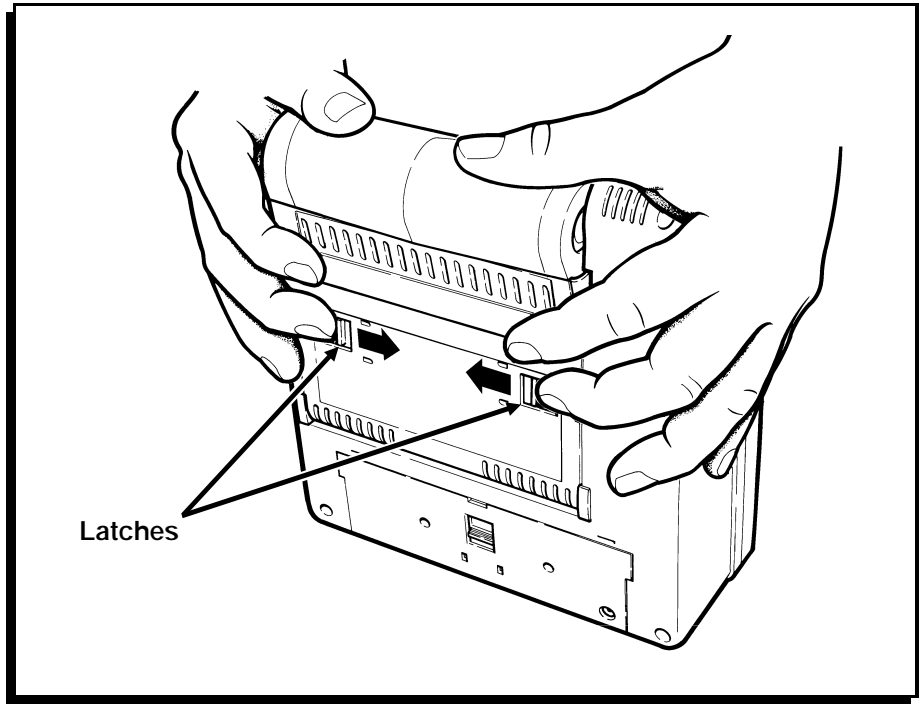

Figure 24
4. Slide the latches on the back of the printer toward the center. (Figure 24.)